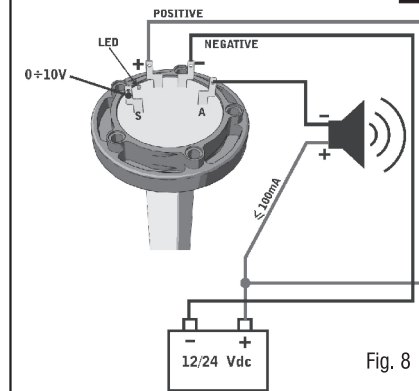

Fig. 8
Note: the output 0-10Vdc of the SDL sensor is the terminal (S) (see Fig. 8)